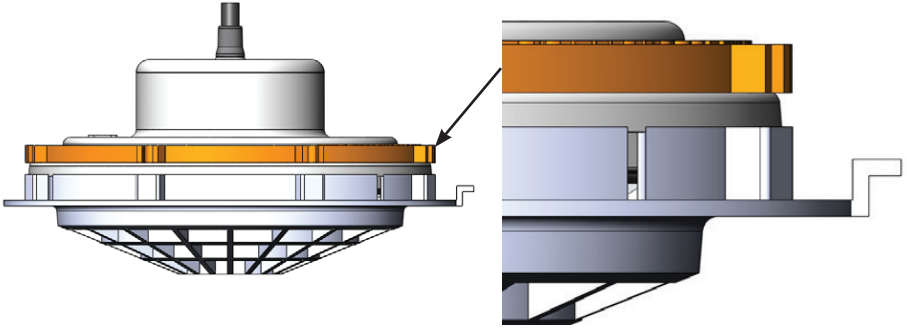

Figure 4.
5. Insert one Truss head screw (11) into each of the 'U' shaped grooves on the clamp ring as shown in Figure 4.